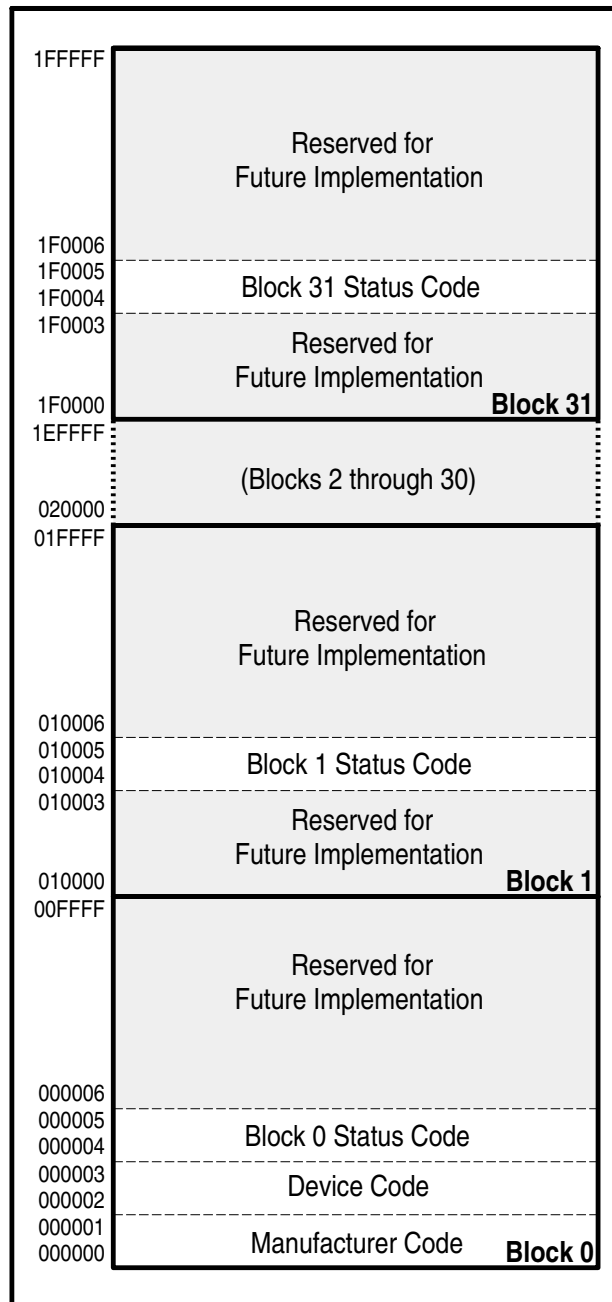

Figure 4. Device Identifier Code Memory Map
The read identifier codes operation outputs the manufacturer code, device code, block status codes for each block (see Figure 4). Using the manufacturer and device codes, the system CPU can automatically match the device with its proper algorithms. The block status codes identify locked or unlocked block setting and erase completed or erase uncompleted condition.
| Read Identifier Codes | 9       | V IH | V IL                                       | V IL                                       | V IL | V IH | See Figure 4   | X               | Note 5             | High Z |
| Read Identifier Codes | 9       | V IH | V IL                                       | V IL                                       | V IL | V IH | See Figure 4   | X               | Note 5            | High Z |
IA=Identifier Code Address: see Figure 4.
The identifier code operation is initiated by writing the Read Identifier Codes command. Following the command write, read cycles from addresses shown in Figure 4 retrieve the manufacturer, device, block lock configuration and block erase status (see Table 5 for identifier code values). To terminate the operation, write another valid command. Like the Read Array command, the Read Identifier Codes command functions independently of the  $V_{PP}$  voltage and RP# must be  $V_{IH}$ . Following the Read Identifier Codes command, the following information can be read:
1. X selects the specific block status code to be read. See Figure 4 for the device identifier code memory map.